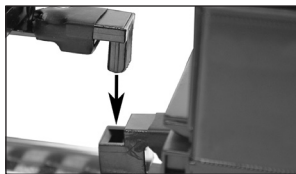

Figure 1. Drawbar connection
2. Place your locomotive and tender on the track and connect the drawbar as shown in Figure 1.
- 2. Place your locomotive and tender on the track and connect the drawbar as shown in Figure 1 on page 4.**
- 1. With track power off, place your locomotive and tender on the track. Connect the drawbar as shown in Figure 1 on page 4.**